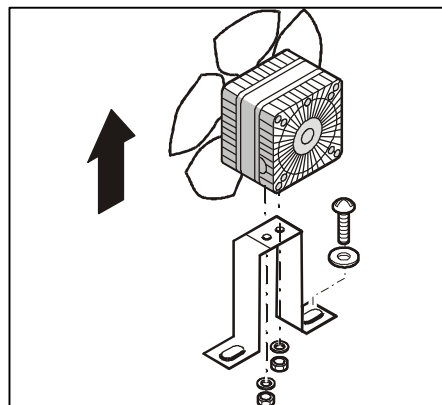
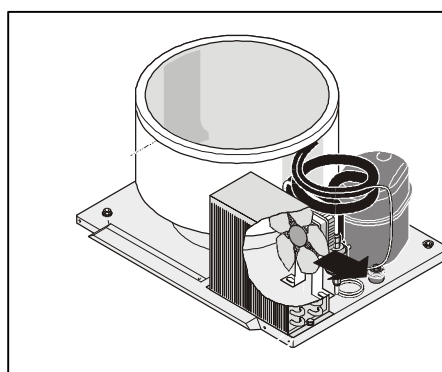

Figure 22
Figure 23
- Remove the 2 fastening screws (411) of the fan supporting angle (410) together with their appropriate locking rings (412) and washers (413). (Figure 22)
- Unscrew the condenser (406) and bend it carefully aside.
- Bend the filter (403) with capillary slightly towards the compressor.
- Remove the condenser fan motor (414) and the fan wing (415) with the holding angles laterally from the unit (Figure 23).